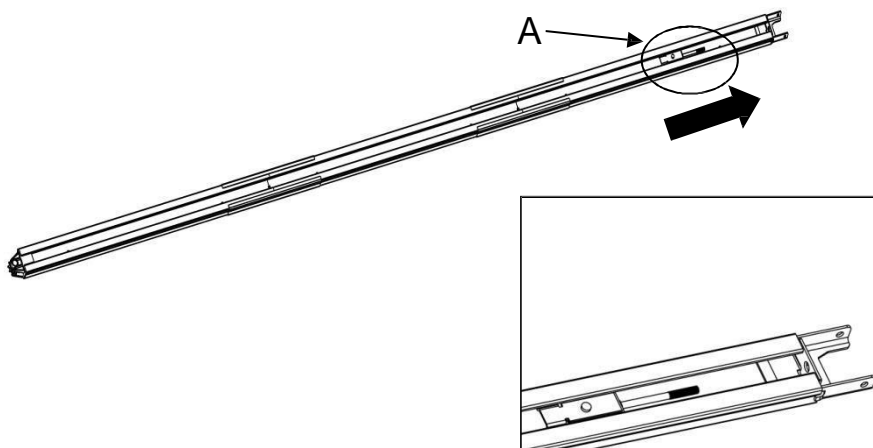

Fig. 9
4. As per Fig.9, pull the screw rod "A" along with inner chain to the end of top rail.